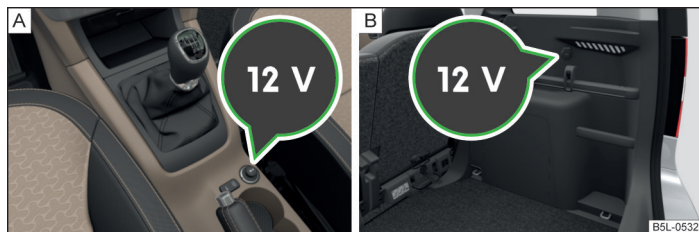

Fig. 64 12 -volt socket in the front central console/ in the luggage compartment
In the front centre console » Fig. 64 - **A**.
In the boot » Fig. 64 - **B**.
- Remove the cover on the power socket » Fig. 64 - **A** or open the cover on the power socket as appropriate » Fig. 64 - **B**.